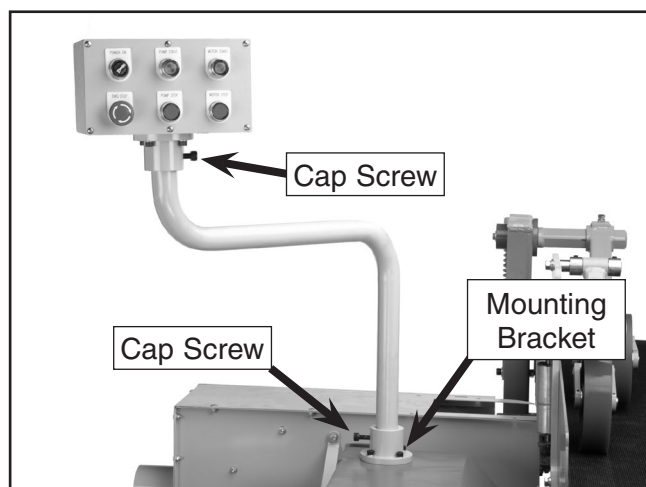
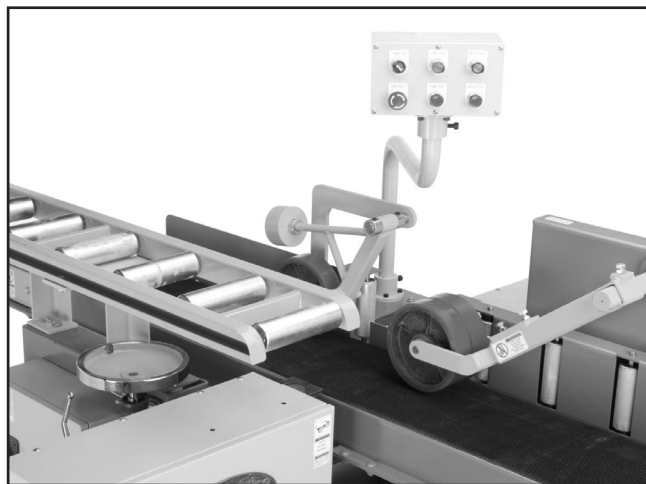

Figure 14. Control panel assembly.
Figure 15. Control panel positioning.
2. Place the control panel support arm into the mounting bracket as shown in **Figure 14**.
3. Position the control panel for easy access, as shown in **Figure 15**, and tighten the cap screws shown in **Figure 14**.